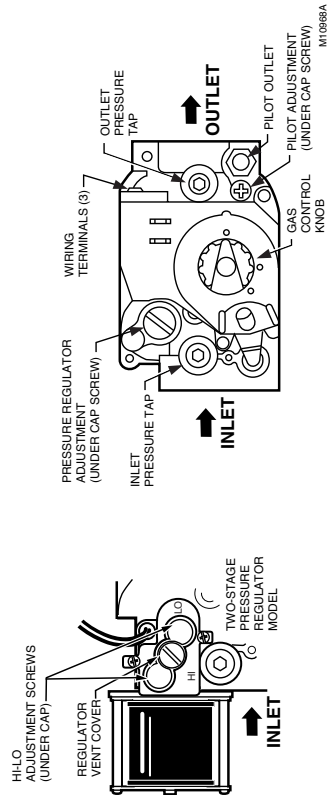
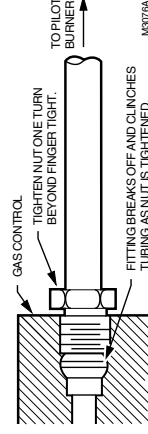

Fig. 6. Top view of gas control.
Fig. 7. Always use new compression fitting.
3. Unscrew the brass compression fitting from the pilot outlet (Fig. 6). Slip the fitting over the tubing and slide out of the way. See Fig. 7.
1. Remove pilot adjustment cover screw. See Fig. 6.
- With main burner operating, check the control flow rate using the meter clocking method or check pressure using a manometer connected to the outlet pressure tap on the control. See Fig. 6.
- Using a screwdriver, turn the inner adjustment screw (Fig. 6) clockwise  to increase or counterclockwise  to decrease the gas pressure to the burner.
- With main burner operating, check the gas control flow rate using the meter clocking method or check pressure using a manometer connected to the outlet pressure tap on the gas control. See Fig. 6.
- Remove the pressure regulator adjustment cap (Fig. 6).